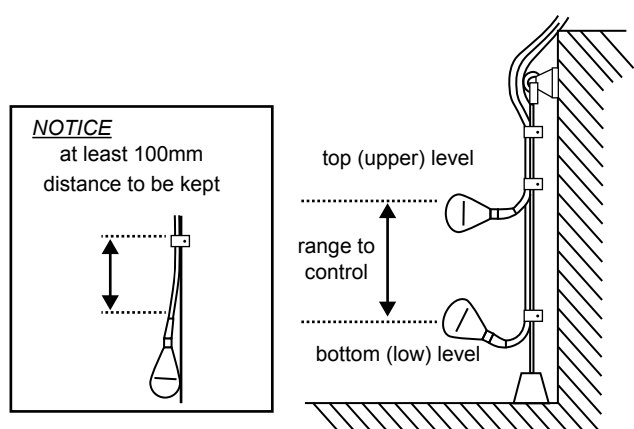

**Figure 13. Float Control Ports**
2. Connect the terminal plugs of float switches to the float control ports on the control panel (Figure 13)